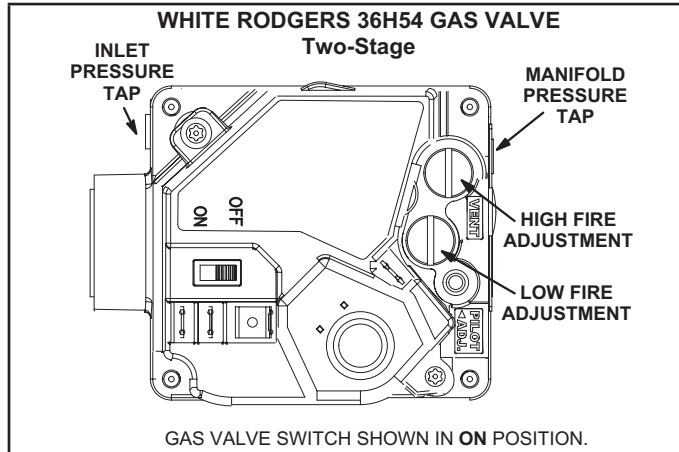
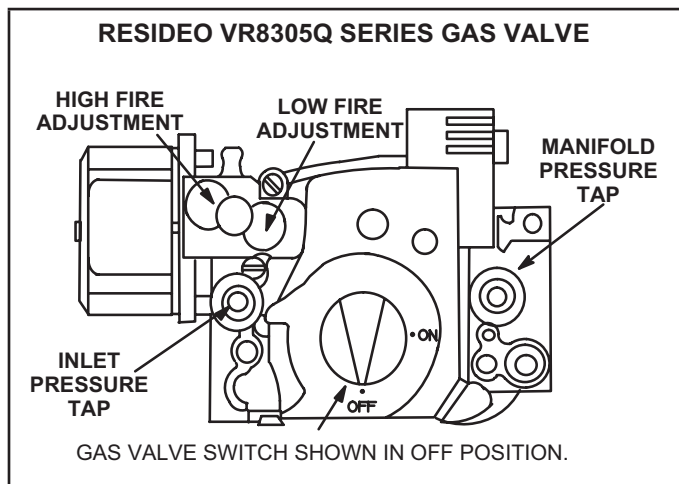

FIGURE 21
FIGURE 22
On the White-Rodgers valve second stage is slow opening (on to high fire pressure in 40 seconds and off to low fire pressure in 30 seconds). The White-Rodgers valve is adjustable for high fire only. Low fire is not adjustable. On the Resideo valve second stage is quick opening. The Resideo valve is adjustable for both low fire and high fire. FIGURE 21 and FIGURE 22 show gas valve components. TABLE 13 shows factory gas valve regulation for ZGD series units.
Gas Valve Operation for Resideo VR8305Q or White Rodgers 36H54 FIGURE 21 or FIGURE 22
- 5 - Turn gas valve switch to OFF. See FIGURE 21. On Resideo VR8305Q gas valves, turn the knob on the gas valve clockwise to "OFF". Do not force. See FIGURE 22.
- 6 - Wait five (5) minutes to clear out any gas. If you then smell gas, STOP! Immediately call your gas supplier from a neighbor's phone. Follow the gas supplier's instructions. If you do not smell gas, go to the next step.
- 7 - Turn gas valve switch to ON. See FIGURE 21. On Resideo VR8305Q gas valves, turn the knob on the gas valve counterclockwise to "ON". Do not force. See FIGURE 22.